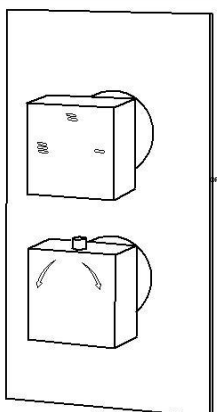

Fig 8a
14. Fit chrome caps to the grub screw hole for square style and fit control levers to circular style to complete valve installation (See Fig 8a/b).